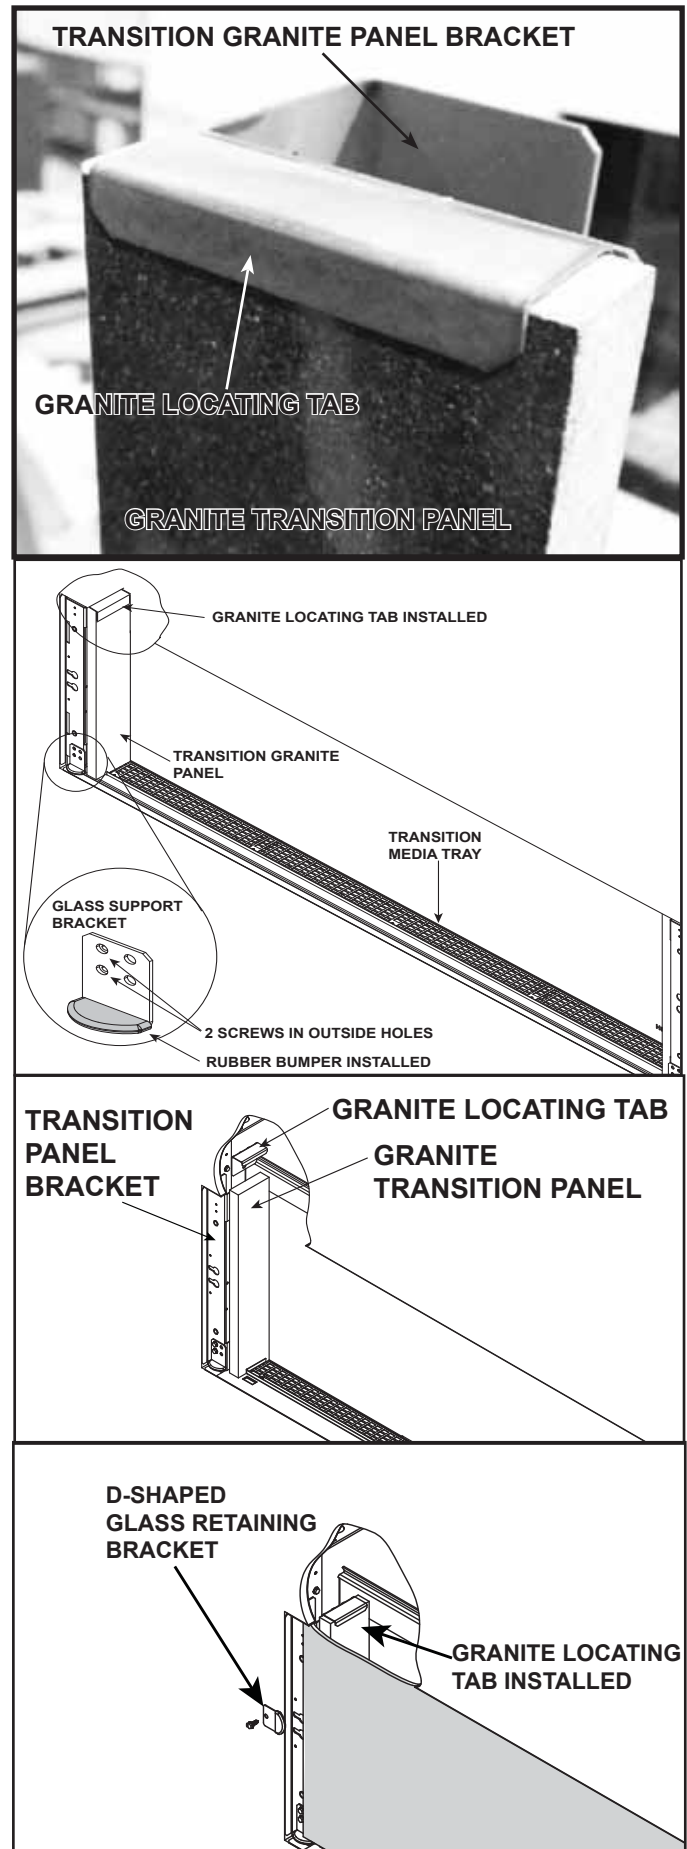

Figure 10.31. Install Transition Granite and Granite Locating Tab (Shown with Side Granite Removed)
11. Install the transition media tray in the location as shown in Figure 10.31. Remove side granite for access.
13. Install the transition granite panels as shown in Figure 10.31.
14. Place the granite locating tab on the top of the transition granite. The bracket is used to secure the transition granite to the transition panel bracket. See Figure 10.31.
15. Install the glass support bracket. See Figure 10.31.
16. Attach the rubber bumpers to the glass support bracket. See Figure 10.31.